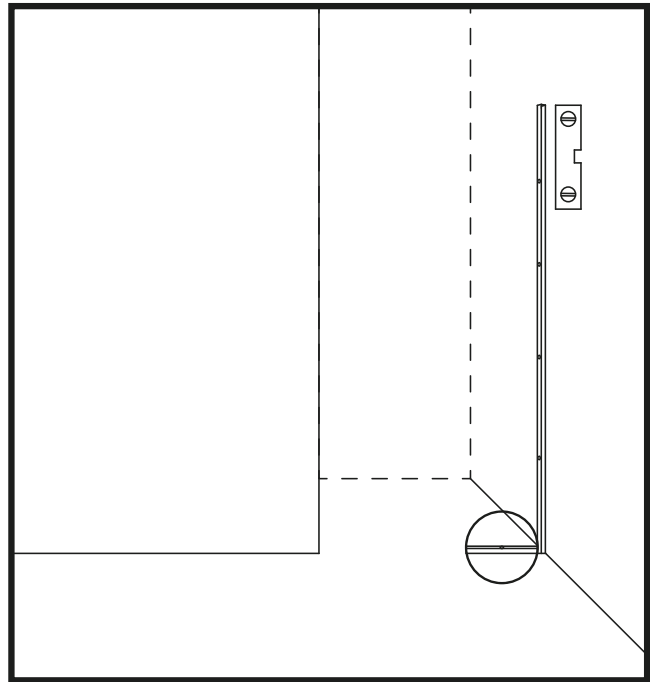

Figure 4
9. Place the shorter U-profile on the floor, with the end against the U-profile on the wall and parallel to the opposite wall. (Figure 4)